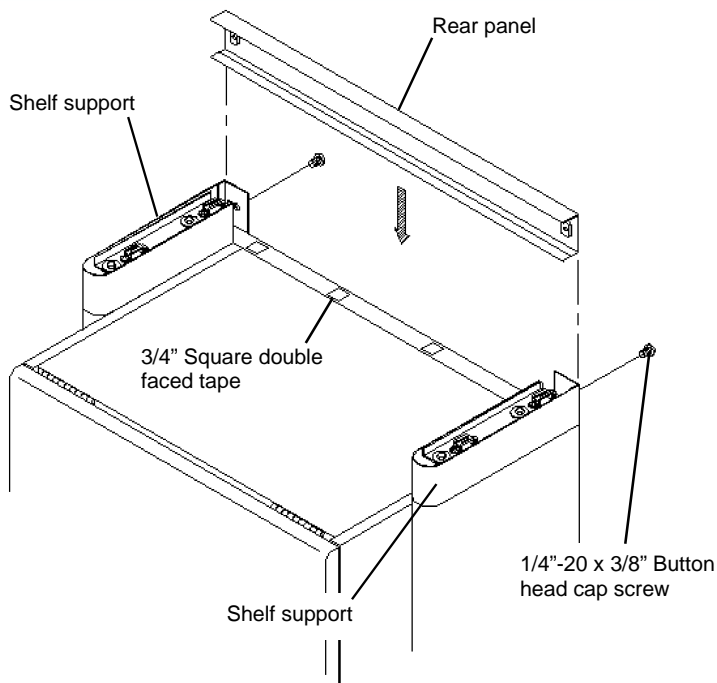

Figure 4
Attach the four squares of double faced tape , evenly spaced, to the top of the Organizer back panel. See **Figure 4**.
- Install the Shelf **Rear Panel** into the back of the Shelf Supports and fasten it in place with the two 1/4"-20 x 3/8" screws provided. See **Figure 4**.